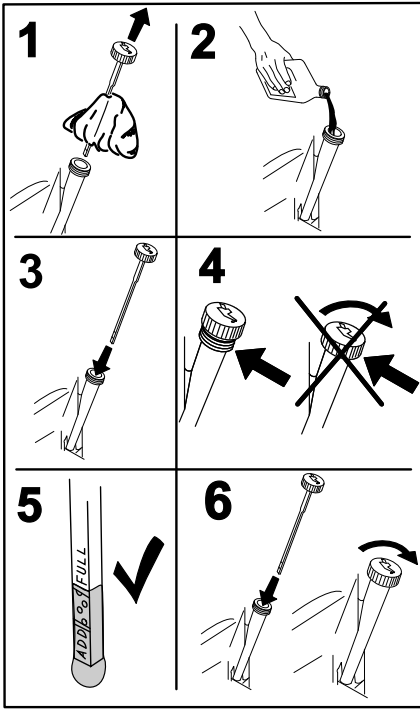

Figure 52
- Slowly pour approximately 80% of the specified oil into the filler tube and slowly add the additional oil to bring it to the **Full** mark (Figure 52).